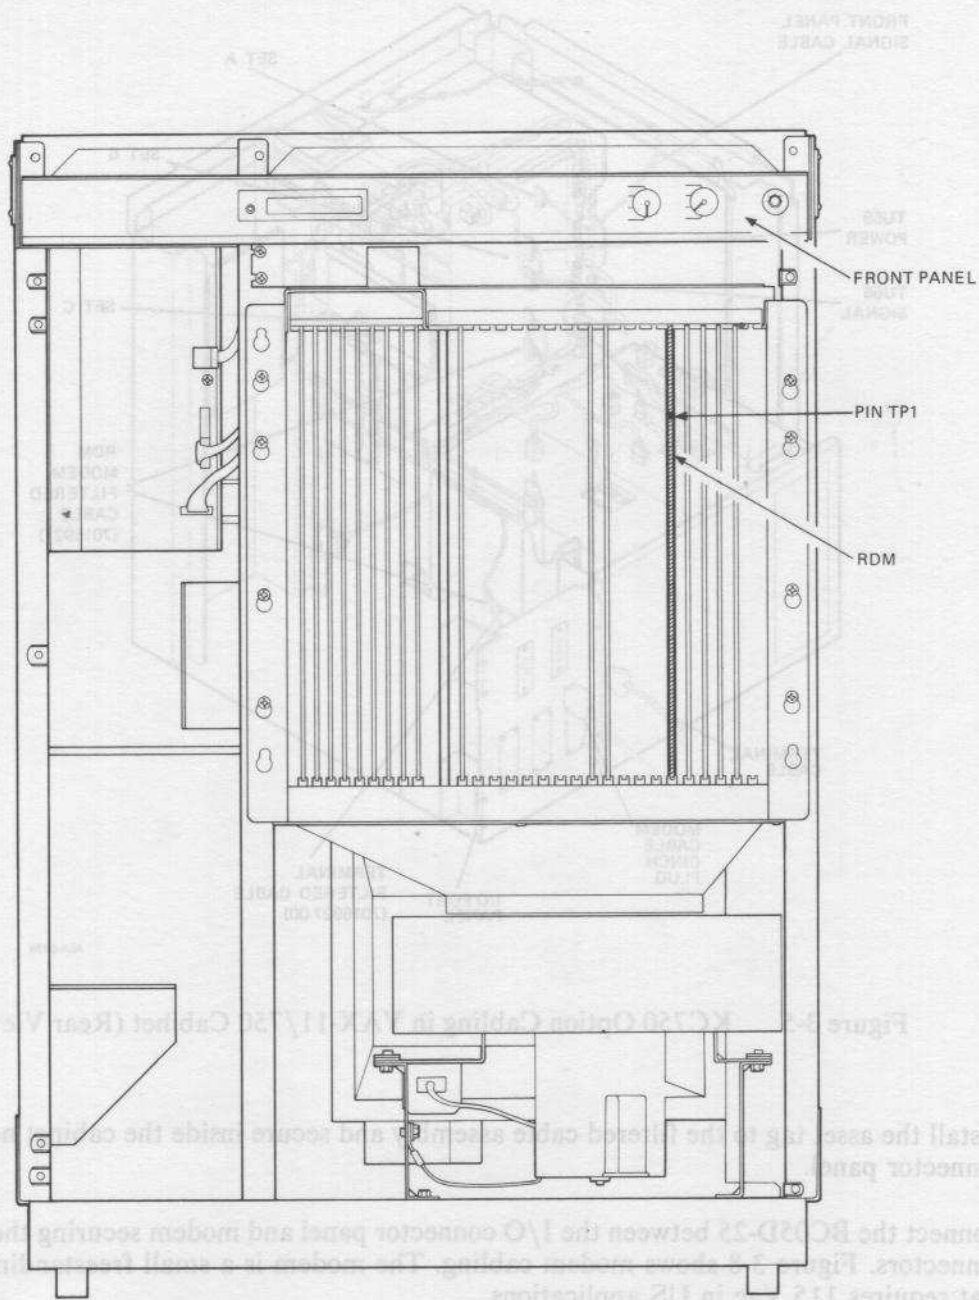

Figure 3-4 RDM in VAX-11/750 Cabinet (Front View)
5. Install the L0006 Module in slot 6 of the processor backplane. Refer to Figure 3-4 for the module placement in the front of the cabinet.